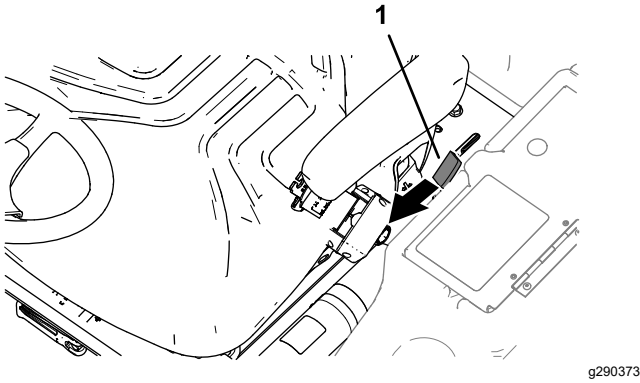

Figure 40
1. Move the platform-latch handle (Figure 40) toward the front of the machine until the latch hooks clear the locking bar.